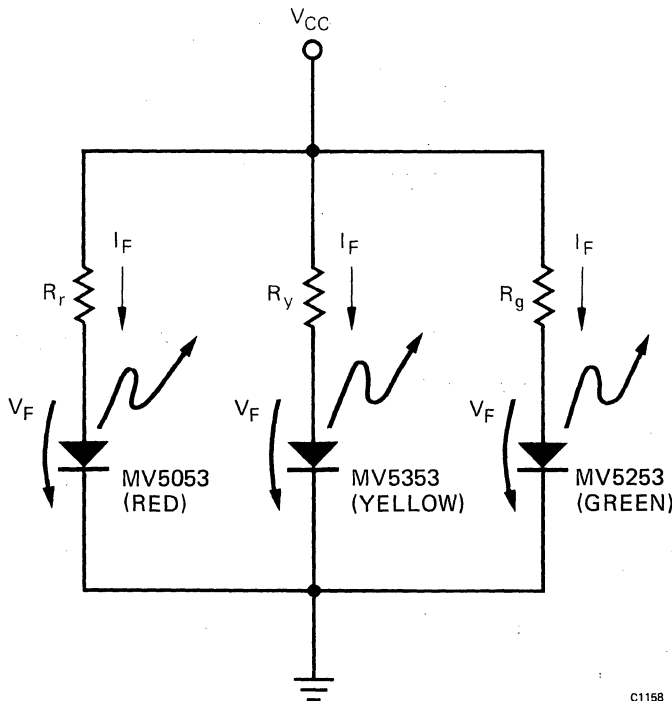

Fig. 12. Brightness Matching Different Colors
**Design Example #4:** Suppose that three LED's, one each of red, yellow, and green, are to each produce a luminous intensity of 2 mcd when installed in the circuit shown in Figure 12. Further suppose that  $V_{CC}$  is set at +5 volts and the LED types chosen are MV5053 (red), MV5353 (yellow), and MV5253 (green).